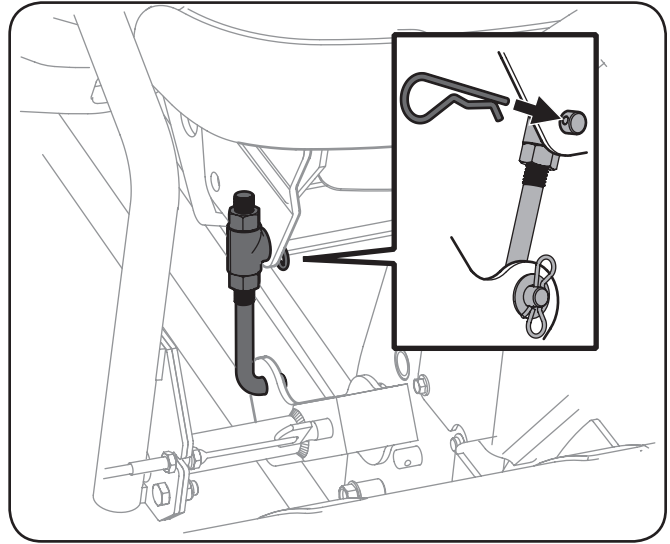

Figure 3-24
4. Remove the hair pin clip from the lift link ferrule. Insert the lift link ferrule into the hole found on the front bottom area of the RH lift hanger bracket and secure it with the hairpin clip just removed. See Figure 3-24.